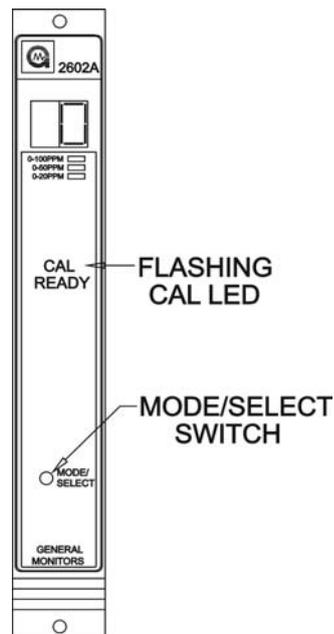

Figure 15 – Entering CAL Check Mode
Enter the Calibration Check mode by pressing and holding the Mode/Select switch until the CAL LED begins to flash (about ten seconds). When the CAL LED begins to flash, release the Mode/Select Switch. The unit is now in the Calibration check Mode (figure 15).
- 2 Place the unit in the CAL Check Mode per the instructions on page 17 of this instruction manual (figure 15).